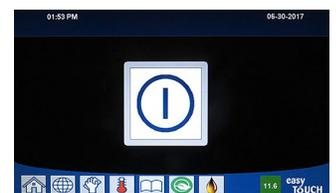

Figure 5
1. Ensure all controllers are OFF and in the standby mode (see Figure 5).